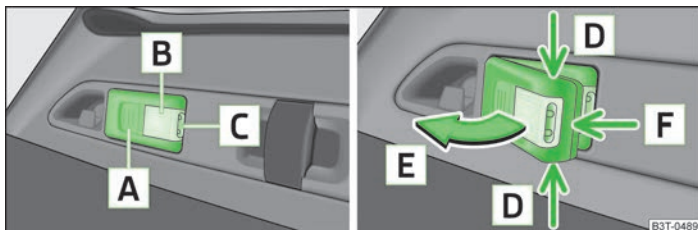

Fig. 42 Removable lamp
- > lighting the boot - it illuminates part **B** » Fig. 42 (the lamp is in the holder),
- > Grasp the lamp in the areas of the arrows **D** » Fig. 42 on page 57 and swivel it in the direction of the arrow **E**.
- If the lamp is not switched off and it is correctly inserted in the holder, the bulbs in the front part **C** » Fig. 42 on page 57 of the lamp are automatically switched off.
- > Lever off the cover for the rechargeable batteries with a narrow and pointed object from the location of the lock-off clips **F** » Fig. 42 on page 57.